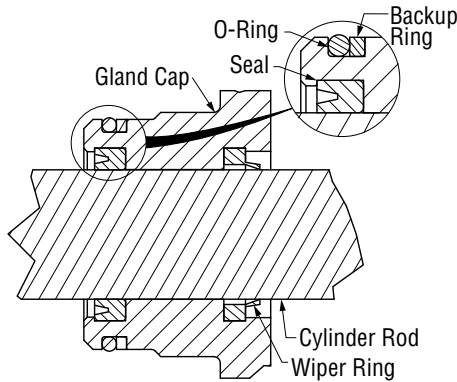

Figure 5-10, Gland Cap Seal
3. Install the seals and wipers in the gland cap. Note the direction of the seals. The cupped side or O-ring side of the seal should be facing the piston. (Figure 5-10)